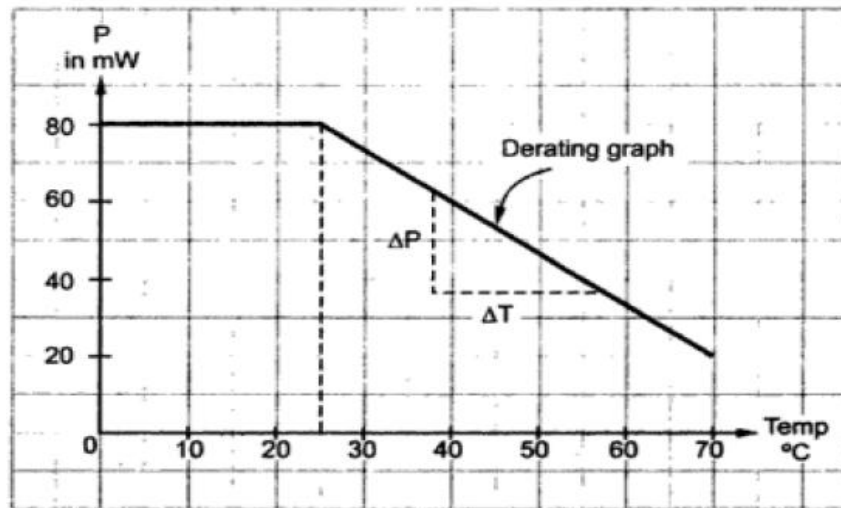

Fig. 1.13 Power derated at high temperatures
- Thus maximum power dissipation of the device must be derated at high temperatures and is shown in Fig. 1.13.